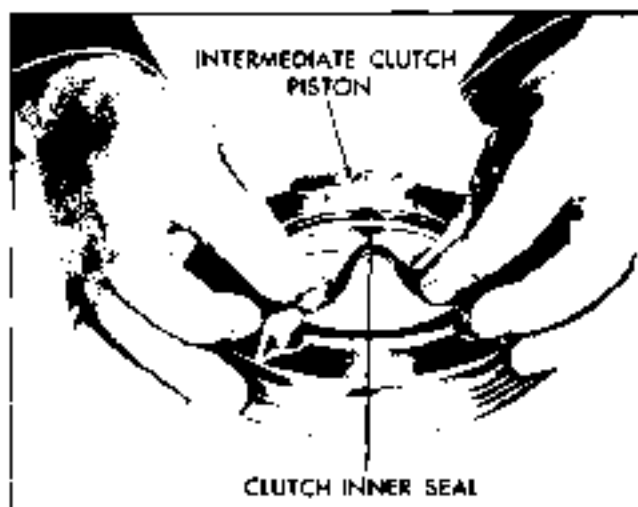

Fig. 7E-113 Installing Intermediate Clutch Inner Seal
1. Install new inner and outer seals on piston with lip of seal facing away from spring pocket (Fig. 7E-113 and 7E-114).